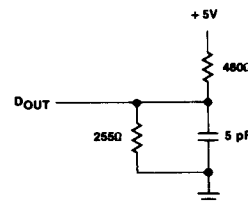

Figure 2. Output Load for t_{HZ}, t_{LZ}, t_{wz}, t_{ow}
3. Transition is measured ± 500 mV from steady state voltage with specified loading in Figure 2. This parameter is sampled and not 100% tested
- 3. Transition is measured ± 500 mV from steady state voltage with specified loading in Figure 2. This parameter is sampled and not 100% tested.